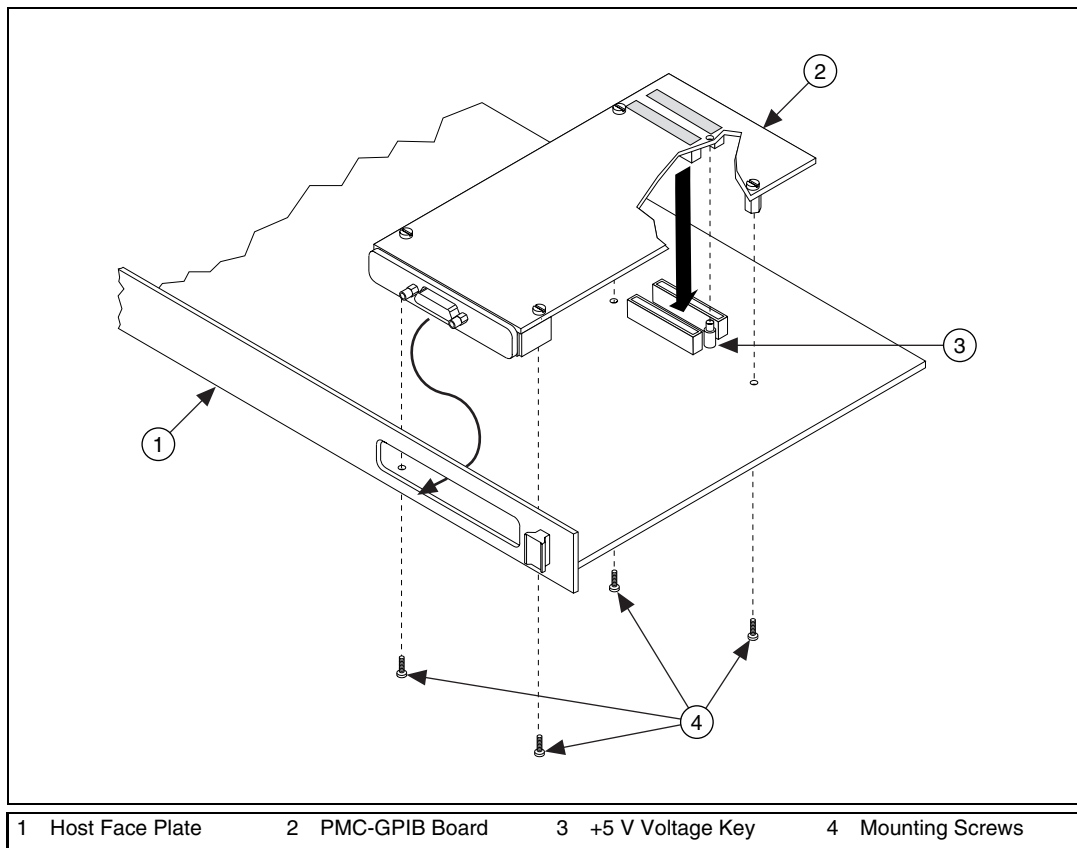

Figure 18. Installing the PMC-GPIB
4. Insert the PMC-GPIB into the slot as shown in Figure 18. It might be a tight fit, but do not force the board into place.